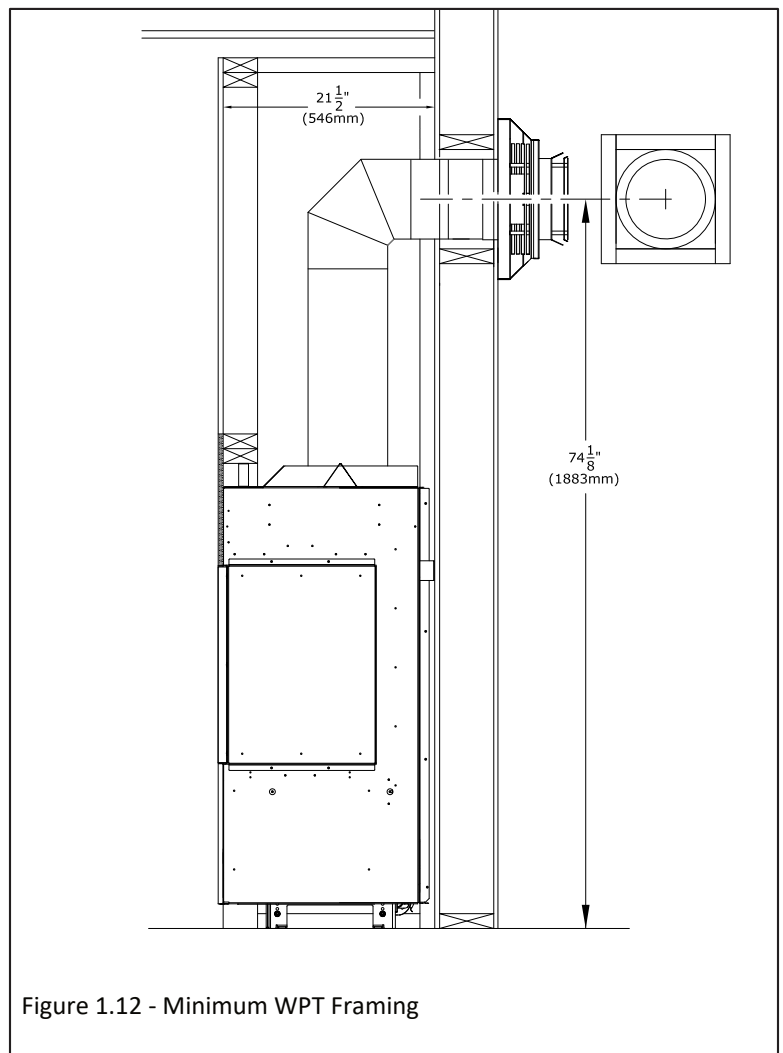

Figure 1.12 - Minimum WPT Framing
- Follow Figure 1.12 below for minimum rough-in dimensions.
1. Measure from floor level of the fireplace to the center of where the vent pipe will penetrate the wall. The dimension in Figure 1.12 is used with a Simpson DuraVent elbow.